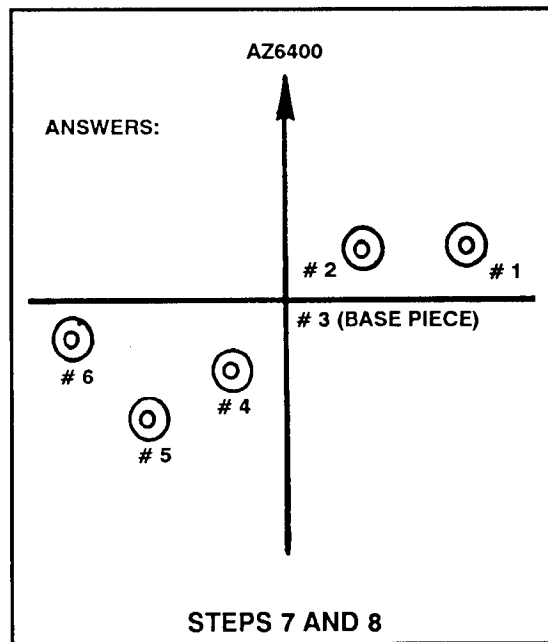

Figure G-4d. Determination of piece displacement (continued).
Step 7. Follow the same procedures to plot No. 5 and No. 6. (Figure G-4d.)